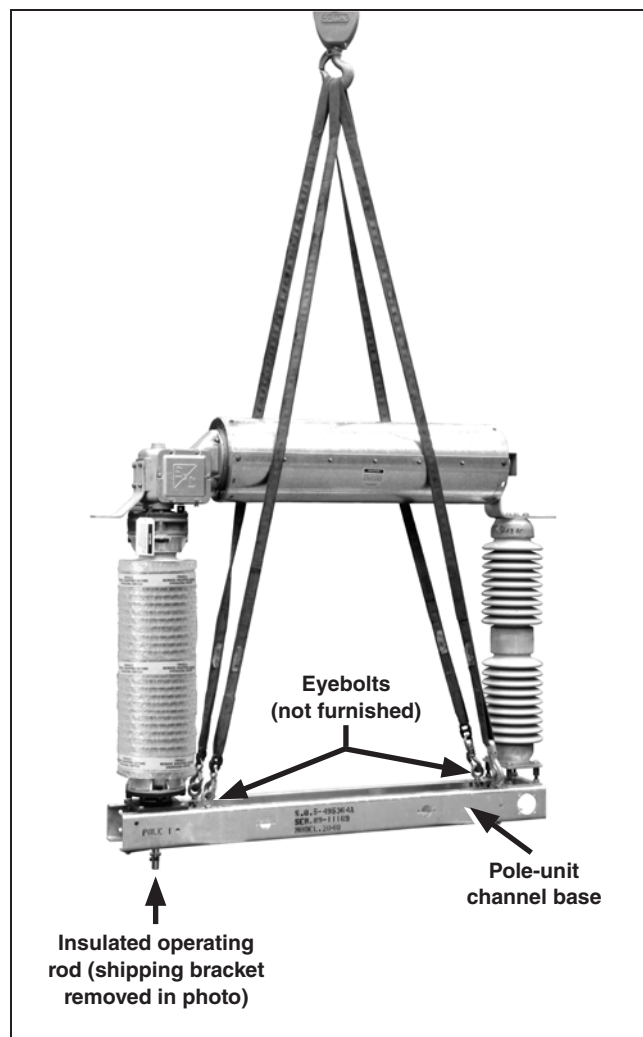

Figure 10. Hoisting the pole-unit.
- Install four eyebolts on each pole-unit base. See Figure 10.
- Attach four suitable lifting slings to the eyebolts on the pole-unit to be mounted at the center of the high-speed base—marked “Pole 2”—as shown in Figure 10.
- Make sure the rigging does not stress the pole-unit. Unbolt the base from the skid. Raise the pole-unit a few feet, then remove the two $\frac{1}{2}$ -13 \times 1 $\frac{3}{4}$ -inch hex-head galvanized steel cap screws, flat washers, and hex nuts that attach the shipping bracket to the bottom of the pole-unit base. The shipping bracket protects the insulated operating rod. Discard the shipping bracket and associated hardware. See Figure 10.